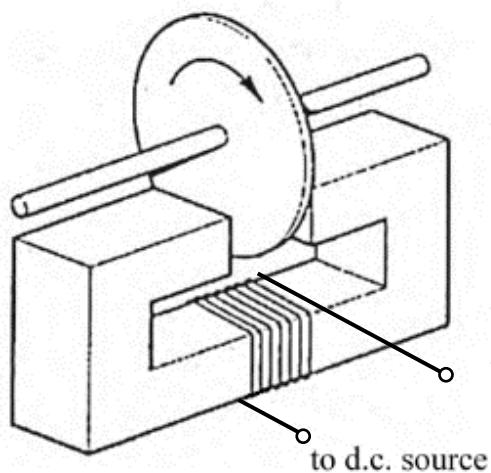
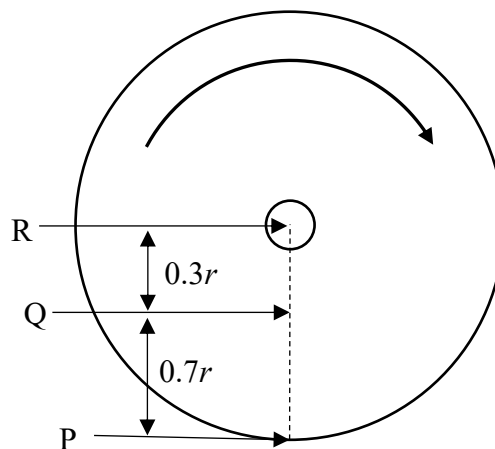

Fig. 5.1
Fig. 5.2
- 5 (a) A copper disc of radius r is made to spin at a constant rate between the poles of an electromagnet as shown in **Fig. 5.1**. When a voltmeter was connected across points P and R (see **Fig. 5.2**) by means of frictionless brushes, an e.m.f. of 10.0 mV was measured.
(i) On **Fig. 5.2**, indicate clearly the direction of the magnetic field acting on the disc. [1]
(ii) On **Fig. 5.1**, indicate the polarity of the ends of the electromagnet facing the disc, using the letters 'N' and 'S'. [1]
(iii) On **Fig. 5.1**, indicate clearly the direction of current in the coil. [1]